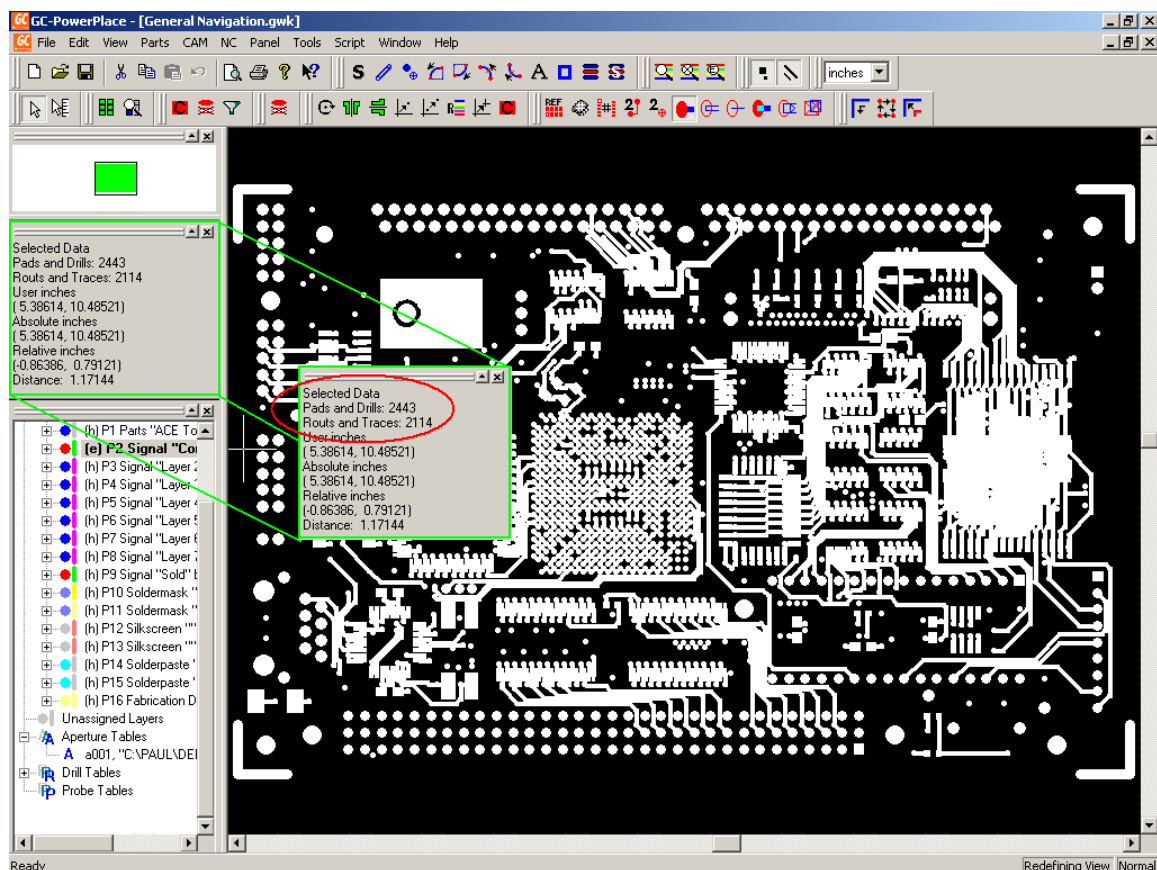

Figure 6: Co-ordinate summary
1. Choose **Edit > Select All**. The data should turn White indicating that the data is selected. Note also that the Co-ordinate Summary Window indicates the number of Pads and Drills selected (see Figure 6). This is always a useful place to check to ensure that data is not unintentionally selected.